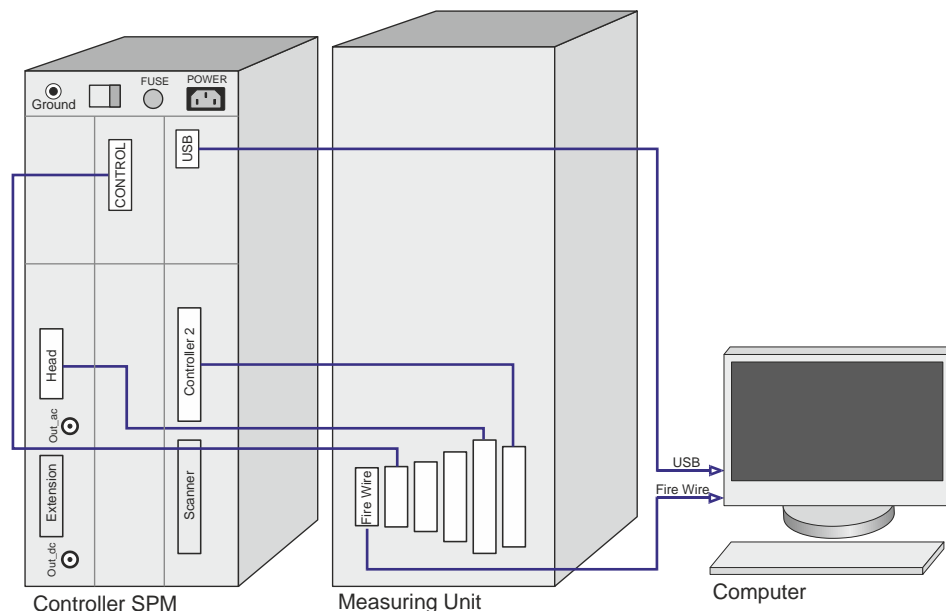

Fig. 4-1. Cable connections
2. Perform cable connections according to the diagram of Fig. 4-1.